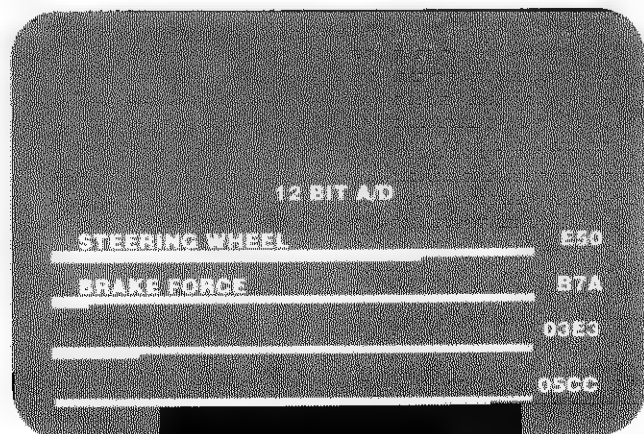

Figure 2-20 Pots: 12-Bit Screen
- In the *Pots: 12-Bit* screen, shown in Figure 2-20, *Steering Wheel* shows the position of the steering wheel. The steering wheel location input is sent to both the 12-bit and the 8-bit A/D converter circuits and is compared. If the numbers do not match, the simulator turns the steering motor force off.